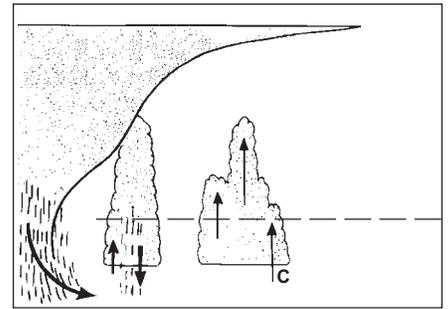

Figure 3B Large cu clear of the cu-nim line.
Figure 3B shows a different version when the cu-nim line has not produced a parallel squall line. Then the lift will not be continuous. Instead one may find a zone of big cu which form well ahead of the main cu-nim belt. In time these outriders (C) grow into cu-nim themselves, but until they do one can use